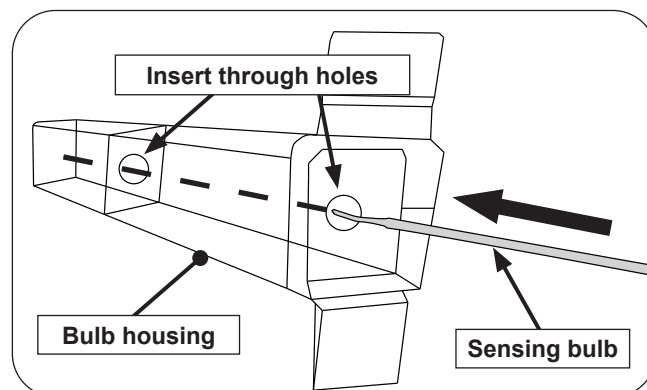

Fig. 2-2 Insert thermostat bulb into center spacers
9. Insert the new thermostat sensing bulb into the opening and carefully slide inward being sure to go through both spacer holes inside the bulb housing. See Fig. 2-2. Resecure the tube using the previously removed bracket and the two supplied hex screws.